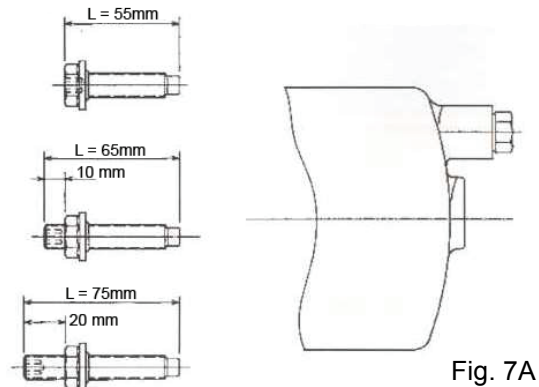

Fig. 7A
Figure 7A If a new poppet adjusting screw and nut are being installed, adjust the locknut on the screw according figure 7A or 7B. Before adjusting the locknut you need to verify the shape of the housing (31) in the poppet screw area, present on the gear installed into the vehicle. See also figure 7A and 7B.